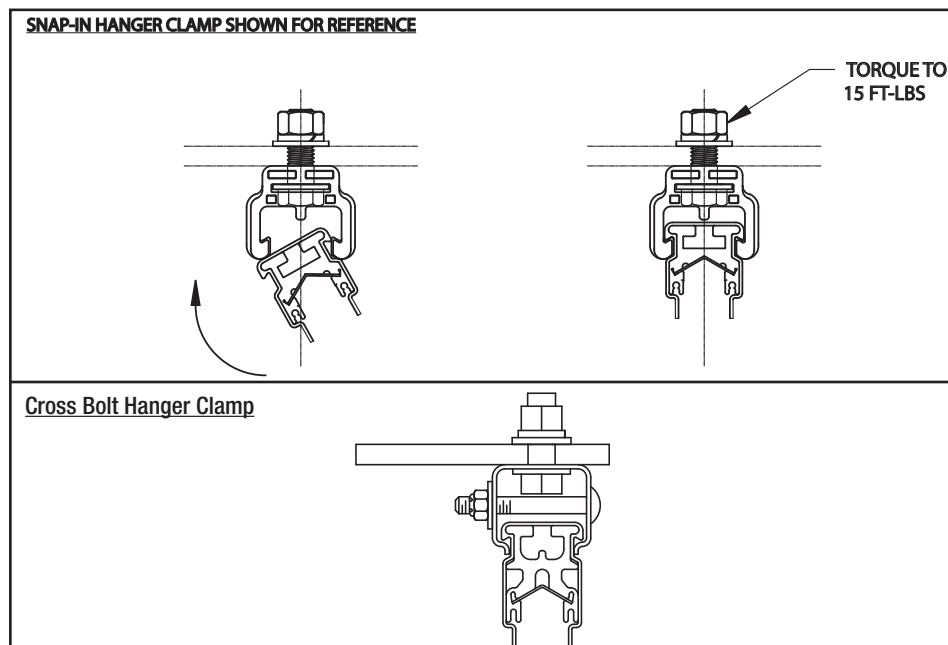

Figure 16-1 Cross Bolt Hanger Clamp Installation
6. Insert one lip of the covered bar into the clamp. Firmly rotate the bar until it snaps firmly into the other lip clamp. See **Figure 16-1**.